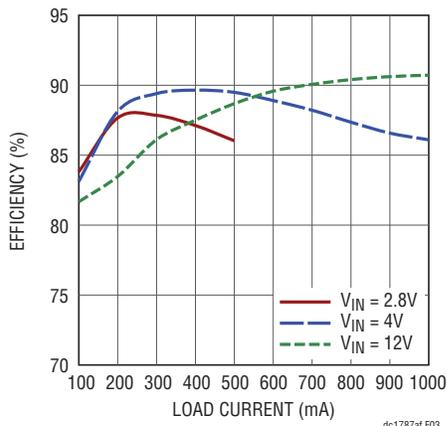

Figure 3. Efficiency Curves
NOTE: The output current capability depends on the input voltage, as can be seen in Figure 3. Proper cooling is necessary for overload operations.
6. Once the proper output voltage is established, adjust the input and load within the operating range and observe the output voltage regulation, ripple voltage, efficiency and other parameters. Typical efficiency curve, regulation, and operation waveforms are shown in Figures 3 and 4, respectively.